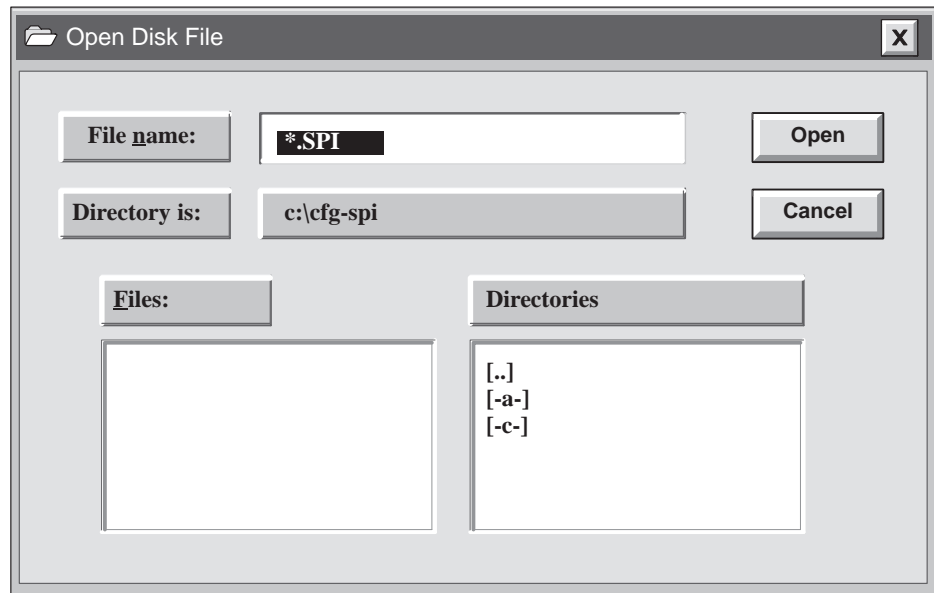

Figure 6-9 Open Disk File Dialog Box
**Open** Use this command to open an existing configuration file. The Configurator displays the Open Disk File dialog box (see Figure 6-9).
The Open Disk File dialog box shown in Figure 6-9 contains the following fields, which enable you to specify which file to open: